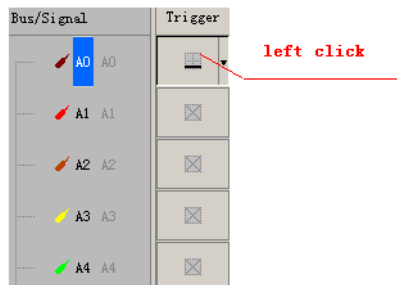

Fig 4-22 – Left Click on Trigger
1. Left click  to set the signal trigger condition as shown in Fig 4-22.